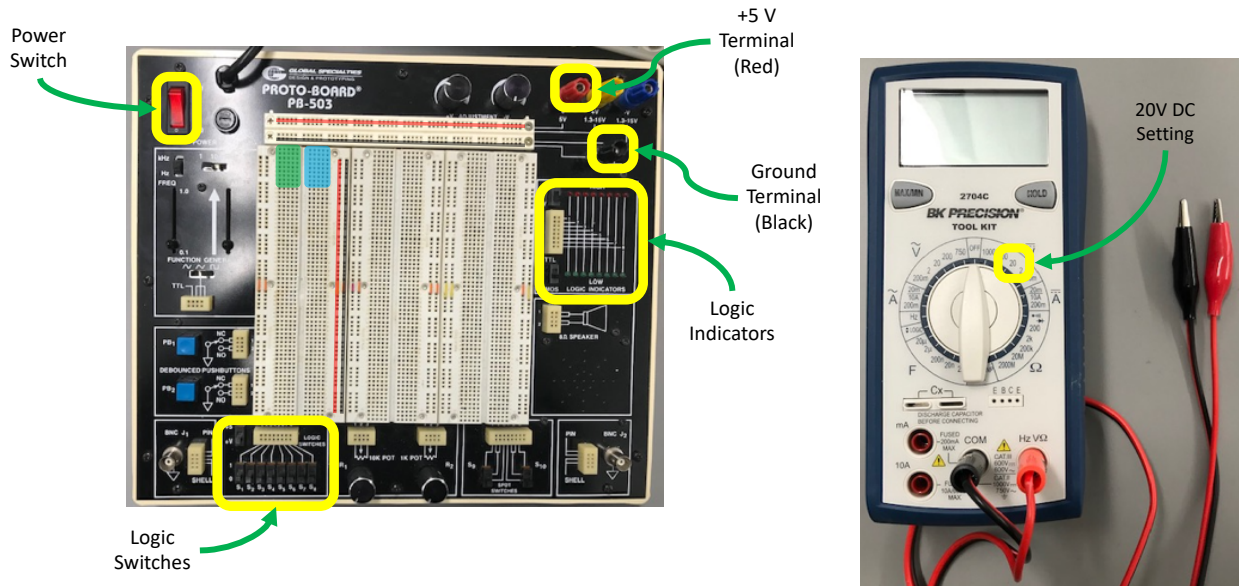

Figure 1: The Proto-Board with the essential elements labeled. **Figure 2:** Digital Multimeter
In this lab you will be introduced to some of the equipment used for prototyping electronic circuits. Each station is equipped with a Proto-Board (Figure 1) and a Digital Multimeter (DMM) (Figure 2) and a box holding wires, tweezers, a wire stripper and a pair of pliers. In addition, you will find a small box containing the electronic components that we will be using.
3. Using the red lead of the DMM and a wire, measure the voltage between some of the holes on the protoboard with the horizontal red line on them in Figure 1 and the Ground Terminal. To do this the black lead should remain in contact with the Ground Terminal. This will be the case for all voltages that you are asked to measure.
4. Repeat question 3 for the holes on the protoboard with the horizontal black line on them in Figure 1.
8. The green and blue highlights of Figure 1 indicate some of the holes in the wider columns of the Proto-Board.